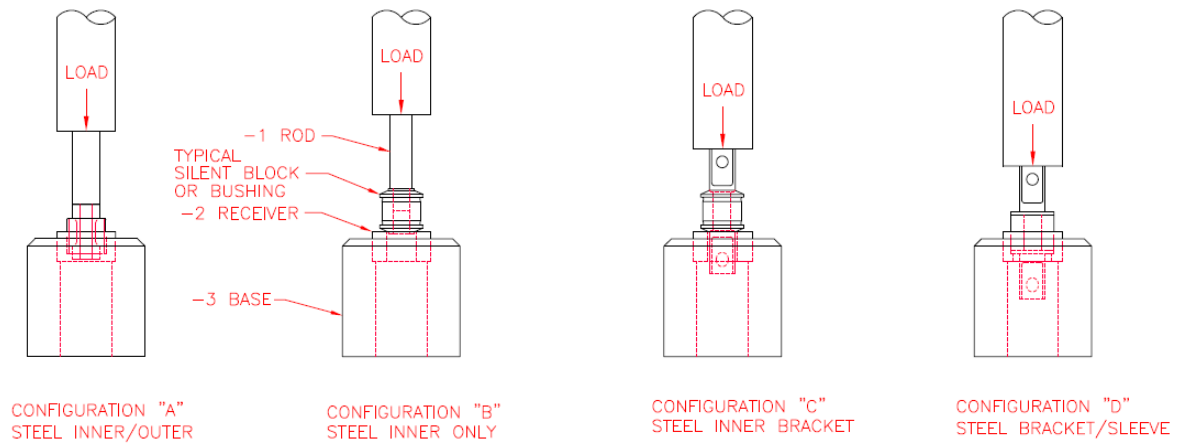

Figure 1: Bushing test setup examples.
- To ensure a good elastomer to metal bond, test sample quantities per test plan from each bushing lot to axial shear failure. Support the bushing outer sleeve in an appropriate press fixture then push the inner sleeve of the bushing and record the peak force. See figure 1 example.